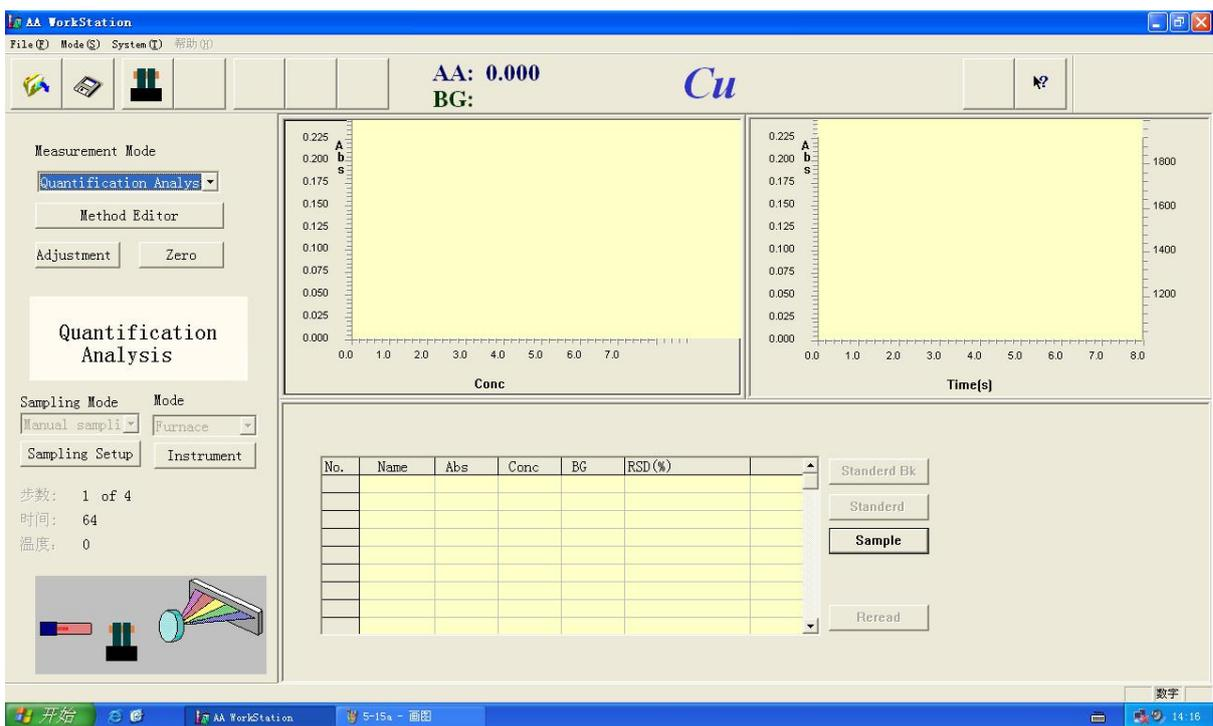

Figure 5-15b
3. Figure 5-15b, select the “quantification analysis” from the “Measurement Mode”